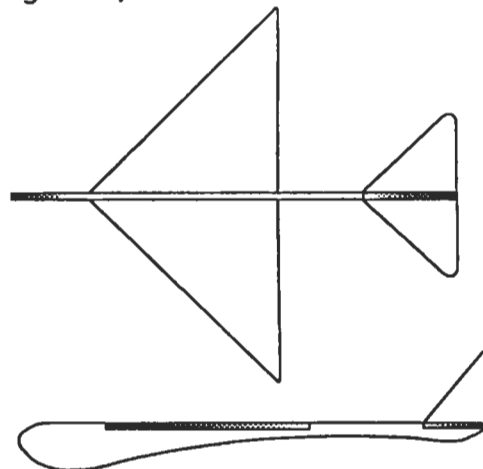

Figure 2 - Rough Sketch
3. Select the design you think will best meet the design specifications. Begin a rough sketch of your selected design. Note that the rough sketch is done as a two-view **orthographic** drawing. (See Figure 2.)